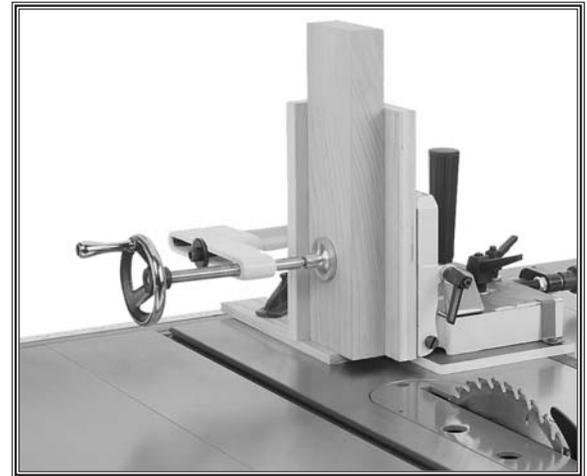

Figure 21. Example of a workpiece correctly mounted on the jig.
- Place the workpiece firmly against the back and side backing boards, as shown in **Figure 21**, then use the clamp shoe to securely hold it in place.